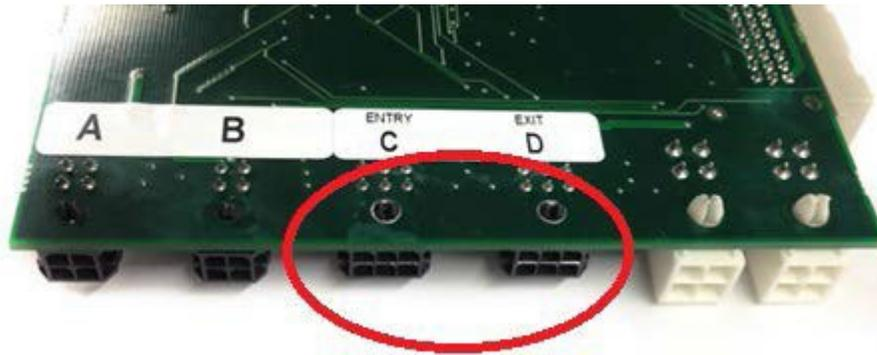

Figure 9. Beacon Radio Ports in RIB
17. See Figure 9. Plug 6-pin beacon radio cable into port C on the RIB if ingress transactions will be recorded (vehicle is entering through the gate), and/or port D if egress transactions will be recorded (vehicle is exiting through the gate).